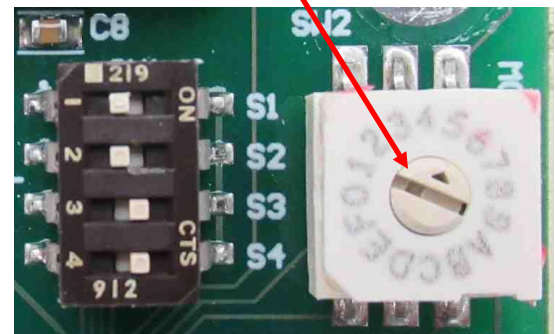

Figure 7 – Modbus address
2. Sixteen addresses are available from zero through F by turning the selector wheel using a small flat bladed screwdriver. See figure 7 at right.